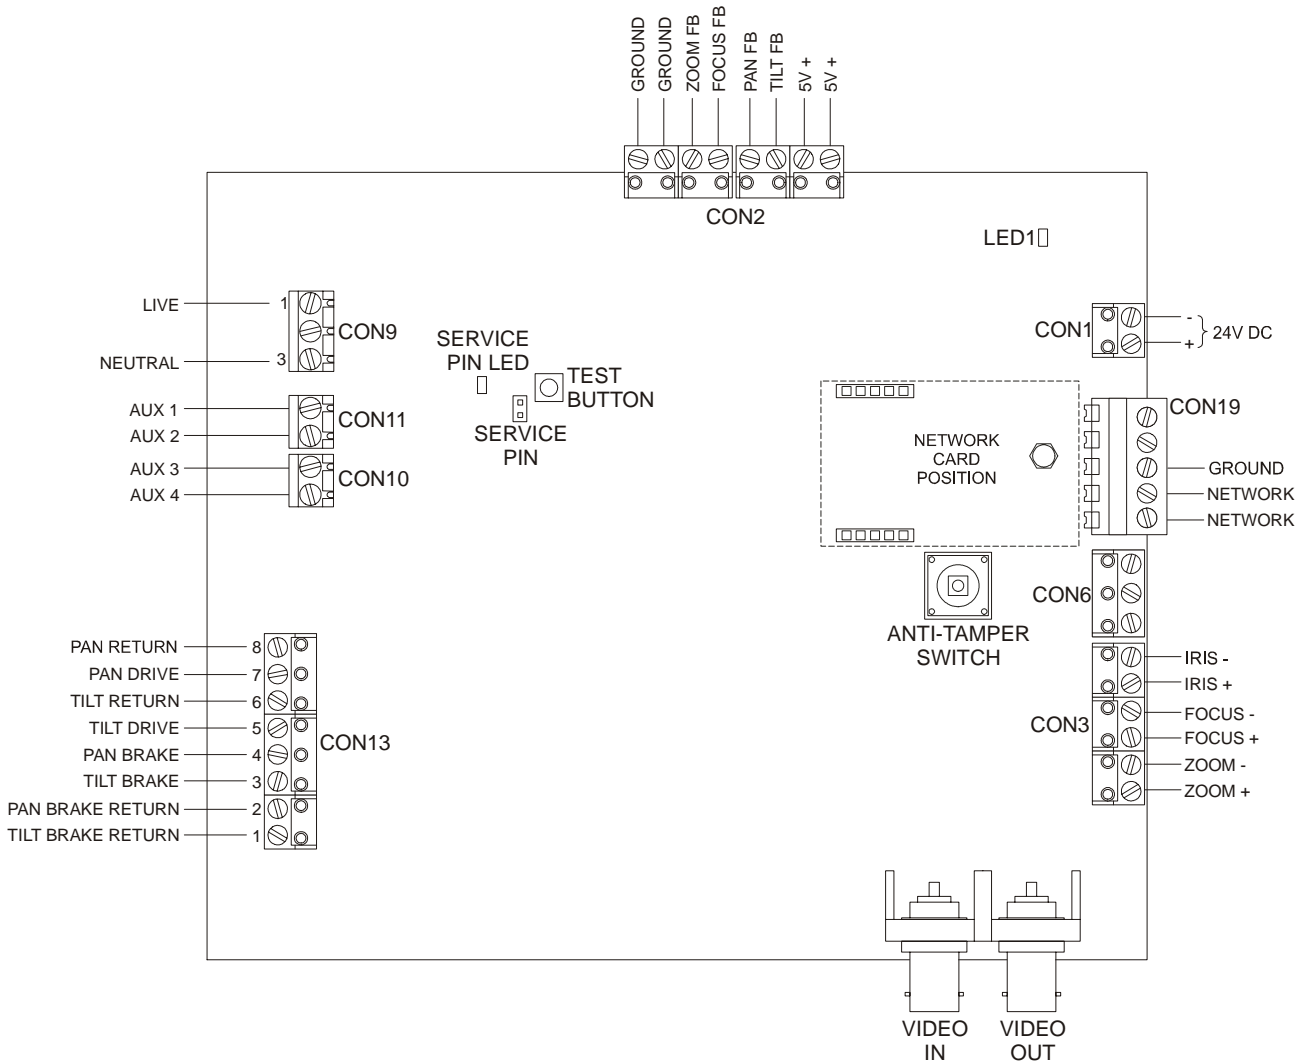

Figure 2 - DC Receiver PCB
CON6 is used as an input for an external anti-tamper switch. It is connected in parallel with the built in anti-tamper switch that is marked in Figure 2.
All video must be connected to the receiver PCB via 75 ohm BNC connectors and video coaxial cable. Referring to Figure 2, connect the video from your camera to VIDEO IN and connect VIDEO OUT to the matrix.
8. So that the keyboard can identify the receiver, press its service pin. On the DC receiver, the service pin is located on the PCB as two pins to be shorted (see Figure 2).